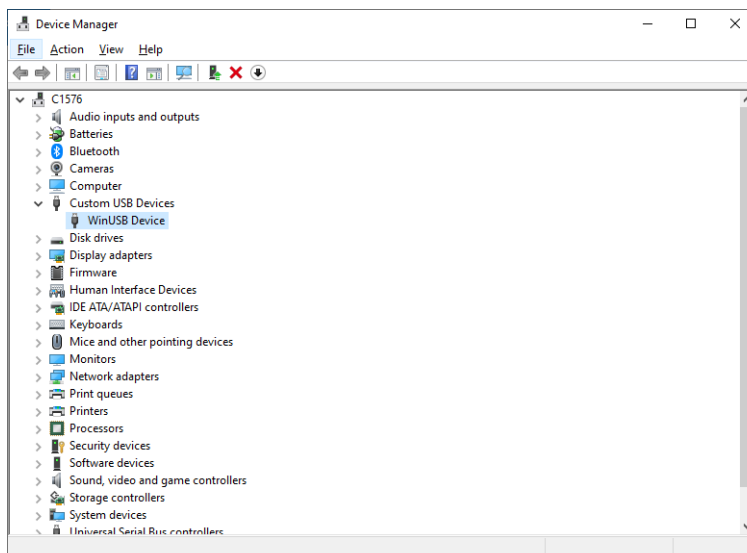

Fig. 10.13: USB device correctly recognized.
- The device is recognized by the operating system and listed in the "Device Manager" window among "Custom USB Devices" (see Fig. 10.13).